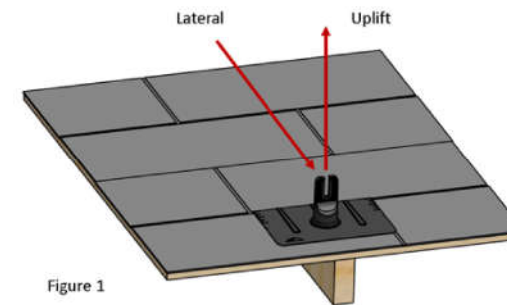

Figure 1
The referenced uplift and lateral resistance of FF2 is based on structural tests conforming to ASTM D1761-12 "Standard Test Methods for Mechanical Fasteners in Wood." Testing was performed by installing a FF2 component on a sample roof deck composed of composition shingles covering 1/2" OSB Board over a 2x4 Douglas Fir rafter as shown in Figure 1. The moisture content and specific gravity of the rafter was measured and recorded per ASTM D2395-14 "Standard Test Methods for Density and Specific Gravity (Relative Gravity) of Wood and Wood-Based Materials." The moisture content for uplift test samples was between 8% and 15% with an average specific gravity of 0.54. The moisture content for lateral test samples was 13% with an average specific gravity of 0.54.
(1) The minimum size rafter is 2x4.
(2) The listed specific gravities are per 2015 NDS Table 12.3.3A.
(3) Values are based on securing lag bolt within center 1/3 of rafter width with a minimum 2.5" end distance, and loading directions as shown in Figure 1.